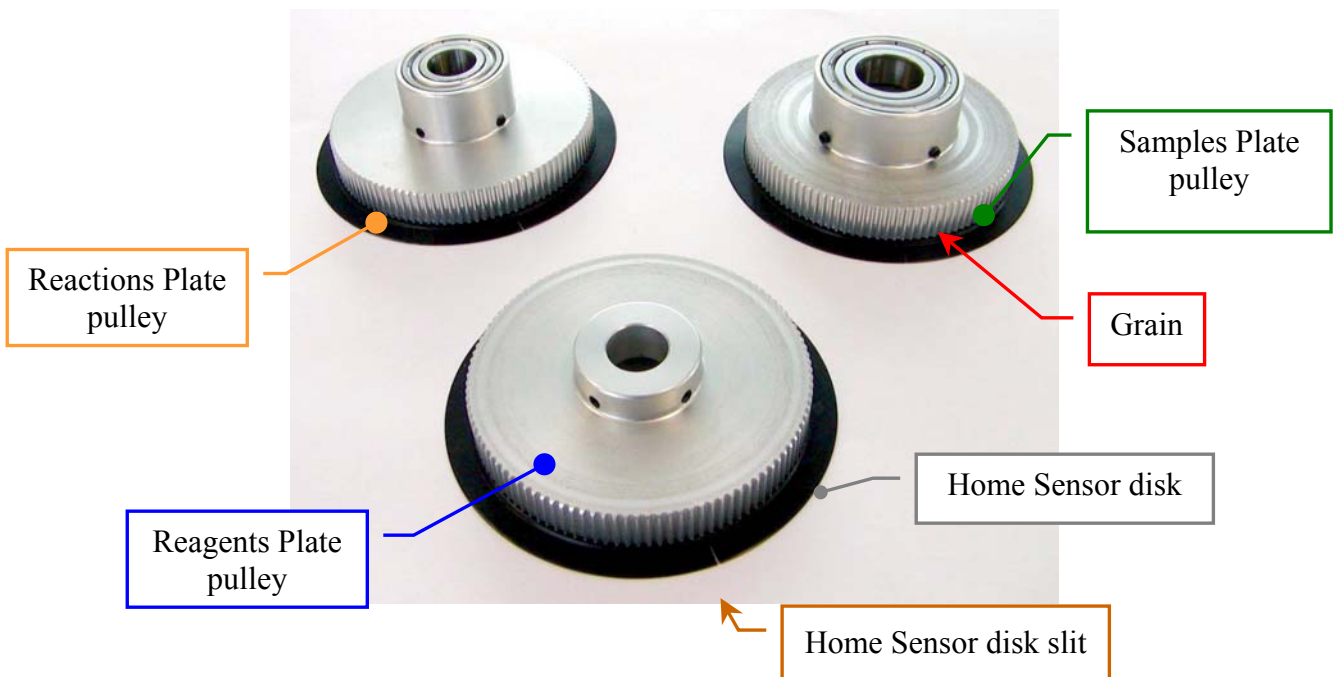

Fig. 66 - Plates pulleys
31. Replace the Samples Plate pulley (Fig. 66) and tighten the two its grains only after to have verified that the two Plate Motor pulleys are locked between of them (and with the Home Sensor disk slit aligned with respect to the slit of the other Home Sensor disk).
4. Remove the belt from the Reagents Plate pulley (Fig. 66).
5. Remove the belt from the Reagents Plate pulley (Fig. 66).
6. Loosen the two grains of the Reagents Plate pulley (Fig. 66) and extract the pulley to the plates axis, making attention not to fold (or to detach) its Home Sensor disk (Fig. 66).
11. Remove the belt from the Samples Plate pulley (Fig. 66).
8. Loosen the two grains of the Reagents Plate pulley (Fig. 66) and extract the pulley to the plates axis, making attention not to fold (or to detach) its Home Sensor disk (Fig. 66).
12. Remove the belt from the Samples Plate pulley (Fig. 66).
13. Loosen the two grains of the Samples Plate pulley (Fig. 66) and extract the pulley to the plates axis, making attention not to fold (or to detach) its Home Sensor disk (Fig. 66).
16. Remove the belt from the Reactions Plate pulley (Fig. 66).
3. Substitute the pulley with the new pulley (Fig. 66).
5. Substitute the pulley with the new pulley (Fig. 66).